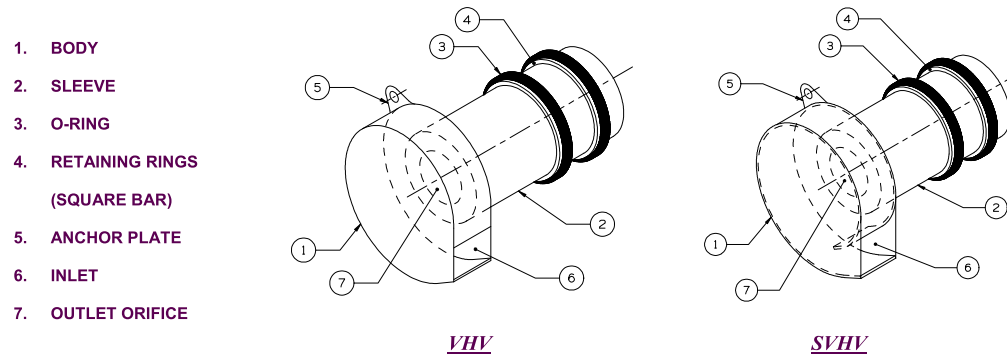

FIGURE 1: HYDROVEX® VHV-SVHV VERTICAL VORTEX FLOW REGULATORS
The **HYDROVEX® VHV / SVHV** Vertical Vortex Flow Regulators (**refer to Figure 1**) are manufactured entirely of stainless steel, and consist of a hollow body (1) in which flow control takes place and an outlet orifice (7). Two rubber "O" rings (3) seal and retain the unit inside the outlet pipe. Two stainless steel retaining rings (4) are welded on the outlet sleeve to ensure that there is no shifting of the "O" rings during installation and use.